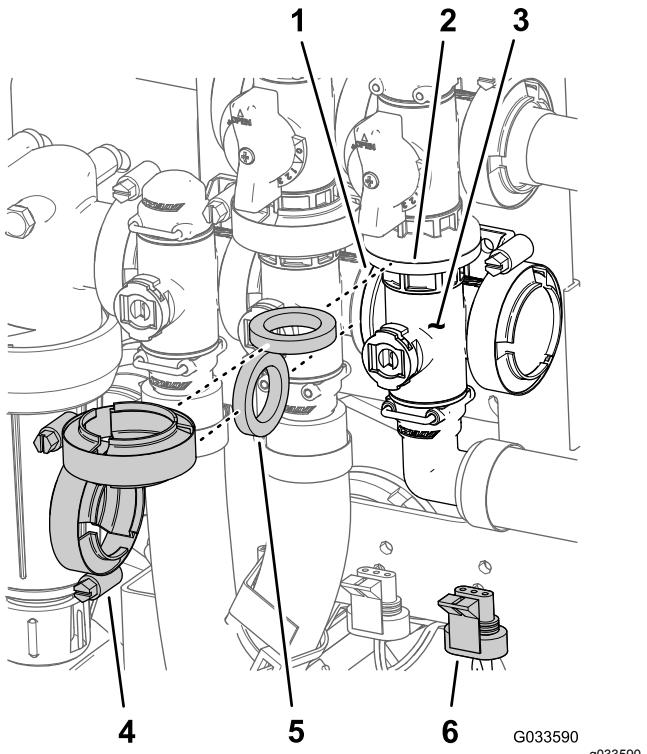

Figure 102
1. Remove flange clamps and gaskets that secure the manifold for the master-boom valve (Figure 102) to the master-boom bypass valve, agitation valve, and 90° flanged elbow (at the end of the hose for the flow meter).